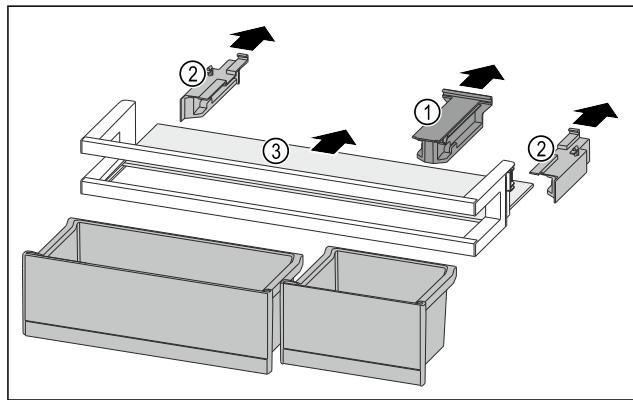

Fig. 121
- ▶ Pull off the holding part Fig. 121 (1).
- ▶ Pull off the side parts Fig. 121 (2).
- ▶ Remove the shelf Fig. 121 (3).